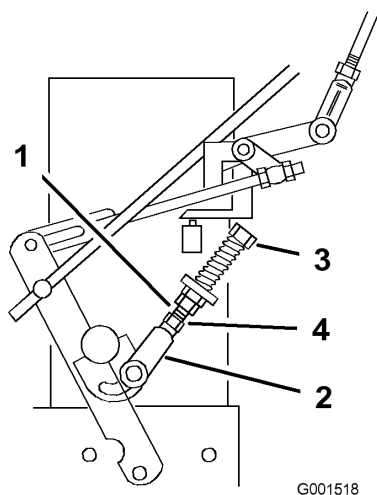

Figure 35
9. If the wheel turns while holding the drive lever in neutral, the neutral control linkages need to be adjusted (Figure 35). If wheel stops then go to step 12.
10. Loosen the nut against the neutral control linkage yoke (Figure 35).
pulled against the neutral spring (neutral position) (Figure 35).
- Turn the adjusting bolt approximately 1/4 turn clockwise if the wheel is turning in reverse or turn the bolt approximately 1/4 turn counter-clockwise if the wheel is turning forward (Figure 35).